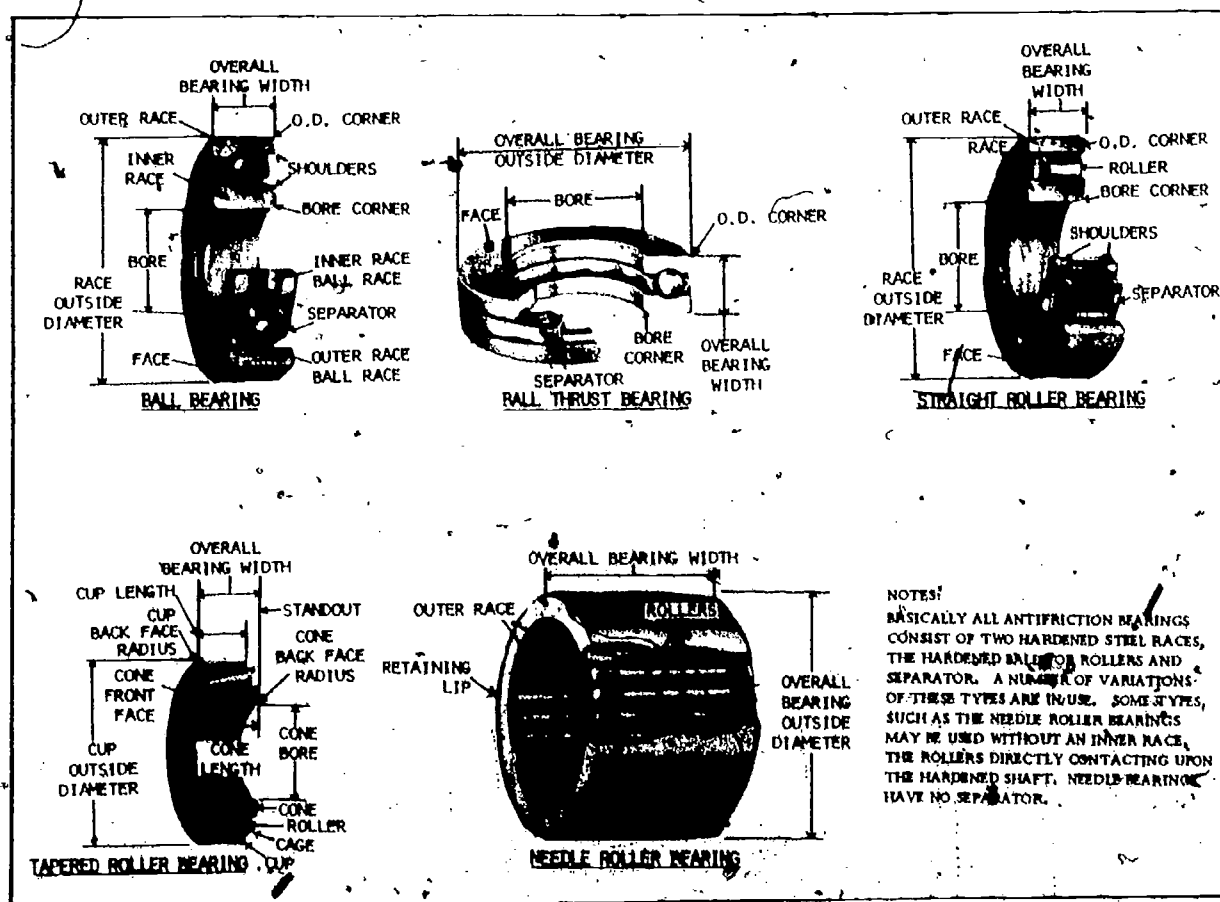

Fig 3-20. Antifriction bearing component parts.
- (b) **Antifriction bearings (fig 3-20).** These bearings depend upon rolling contact rather than sliding contact. They are the ball bearings and roller bearings which are used throughout the power train. These bearings ordinarily give a warning before complete failure by gradually decreasing the smoothness of operation. The bearings are designed to withstand radial loads, thrust loads, or angular loads. Some will withstand a combination of the different loads. Figure 3-20 illustrates the different bearings and how they are designed to withstand the different loads. These bearings are constructed from very hard materials that have been machined with precision and treated to withstand high speeds and heavy loads. The bearings consist of an inner and an outer race which act as a wear surface or path for the balls or rollers. Although some antifriction bearings are prepacked and sealed, bearing life depends upon proper lubrication and cleanliness; a pit or score no larger than a pin point will cause unsatisfactory bearing operation. The bearings are installed so that one race will turn with the shaft or other rotating member. The balls or rollers roll as the component turns with minimum friction. Antifriction bearings are designed to withstand the different type loads when installed properly. Improper installation will cause the component to fail.